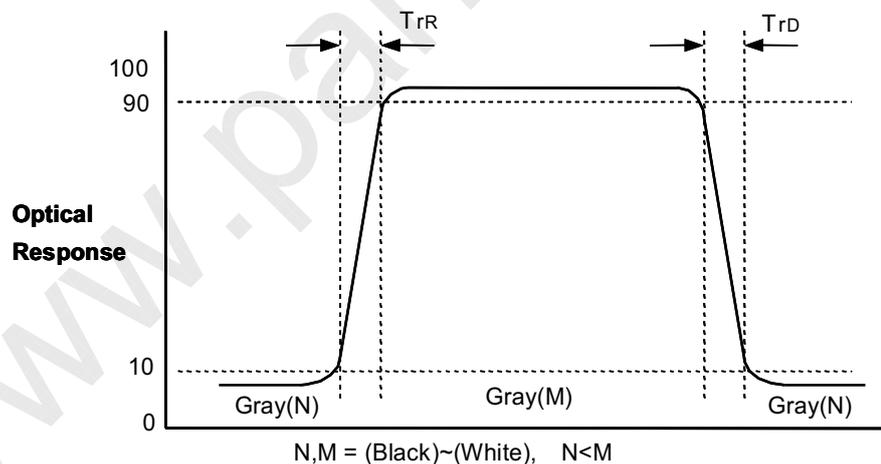

FIG.3 Response Time
4. Response time is the time required for the display to transit from G(N) to G(M) (Rise Time, TrR) and from G(M) to G(N) (Decay Time, TrD). For additional information see the FIG. 3. (N<M)